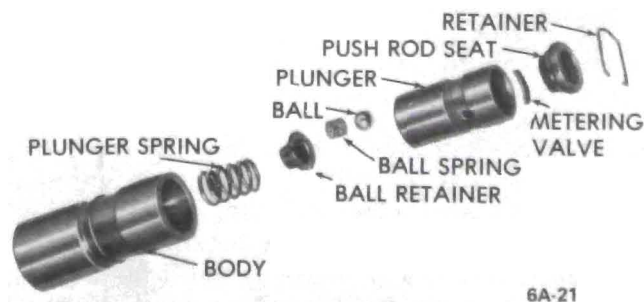

Figure 6A-21 - Hydraulic Valve Lifter Parts
16. Hold plunger in vertical position with feed hole up, then rinse and install the check ball, check ball spring, ball retainer, spring, and body over the plunger. See parts in Figure 6A-21.
17. Rinse push rod seat, metering valve, and plunger retainer. Place these parts in end of body and push with handle of Remover J-5238 until retainer engages groove in body. See Figure 6A-19, View B.